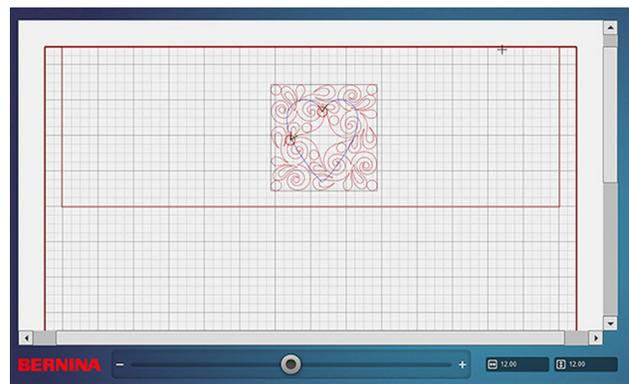

Fig. 16
4. With the Swirls Paisley block selected (Fig. 16) (highlighted in red), open the Mask tool.